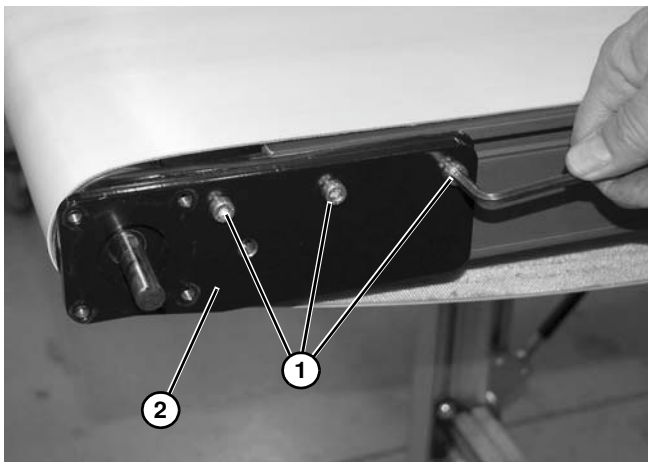

Figure 63
3. Remove three fastening screws (**Figure 63, item 1**).
4. Remove the gearmotor mounting plate (**Figure 63, item 2**) from the conveyor frame